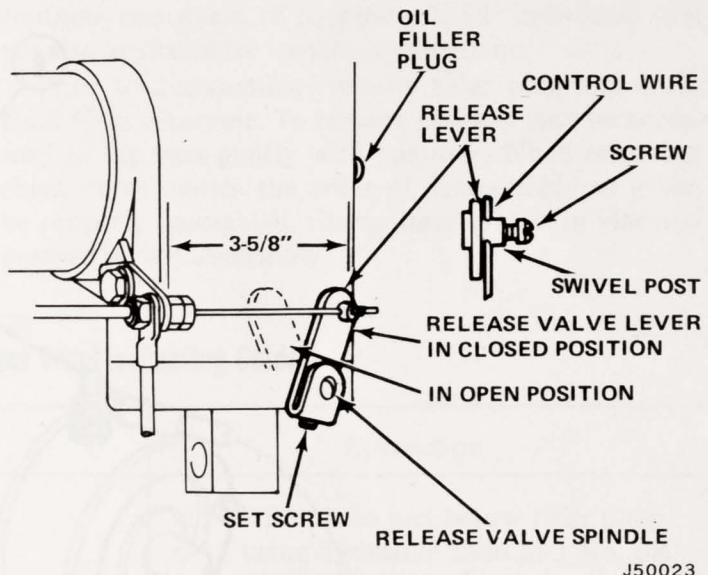

Fig. 1-33 Control Wire Installation
(12) Push control wire back through conduit until it extends approximately 1 inch beyond nut.
(13) Position wiper ring over wire and into conduit nut, and install wiper ring retainer and thread snugly into conduit nut against wiper ring.
(14) Route control wire through conduit and release valve lever swivel (with release valve lever in closed position as shown in figure 1-33) until it extends 1/2 inch or more beyond swivel. Tighten swivel post setscrew.
(15) Position release lever on control assembly (closed position) and snap starter button into control assembly bracket.
(16) Set control lever 1/16 inch away from starter button and tighten setscrew on handle. Cut off excess wire.
(17) Position motor solenoid under hood so cables reach connections. Using motor solenoid as guide, drill mounting holes and install with self-tapping screws.